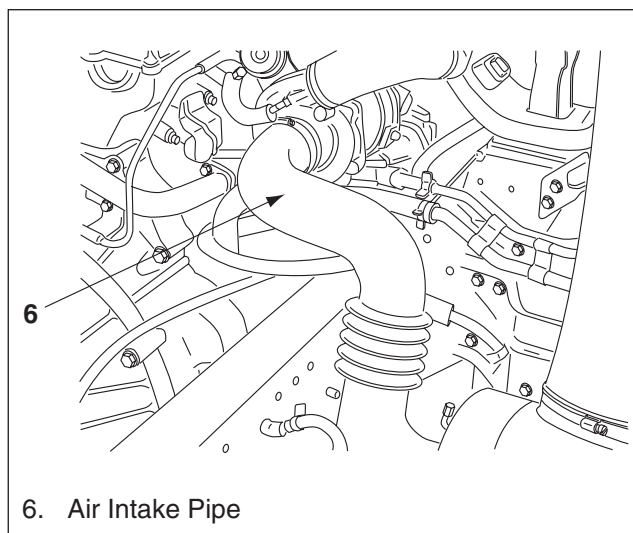

Figure 3. Air Intake Pipe to Turbocharger Attachment
6. Air intake pipe (6) from the turbocharger and the air cleaner (figure 3).